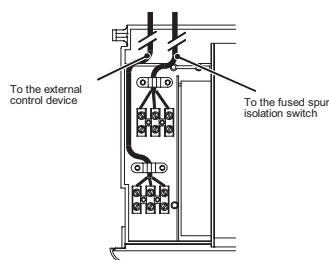

Figure 12.10
- Route the electrical supply cord and the external control cord as illustrated in Fig. 12.10.